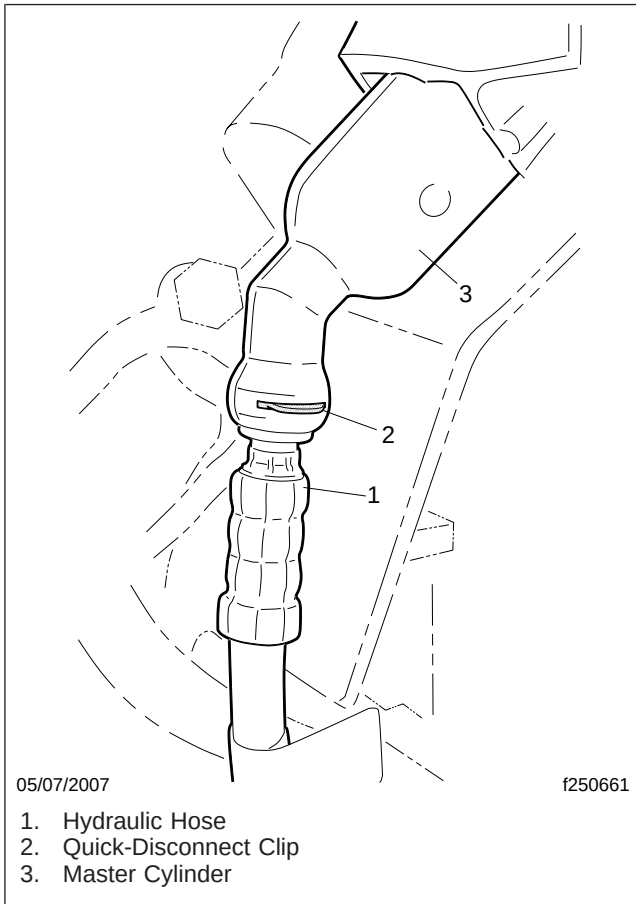

Fig. 3, Quick-Disconnect Clip at the Master Cylinder
8. Use a flat-tip screwdriver to remove the quick-disconnect clip that locks the hydraulic hose into the master cylinder. See Fig. 3. Remove the hose and, with the end pointing upwards to pre-